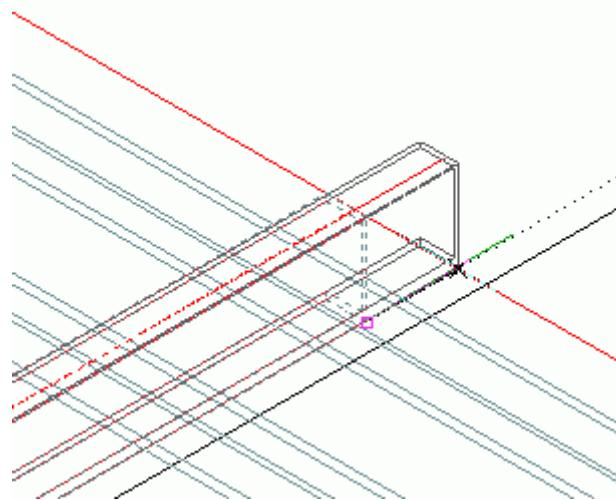

Figure 59: Adjusting the purlin position
3. Specify the base point as in Figure 59 and move the purlins in the Y direction until they reach the edge of the **C1-E1** straight beam.